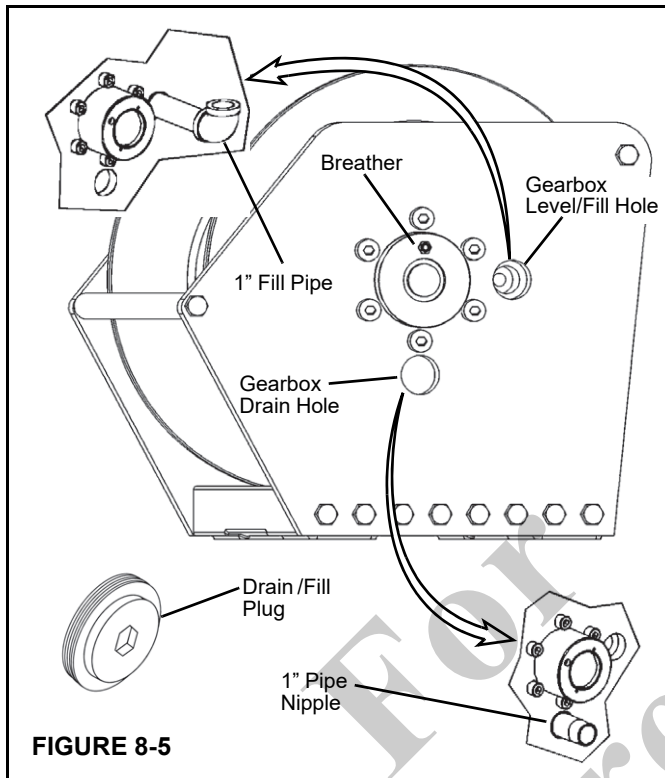

FIGURE 8-5
- Rotate the drum until the oil fill/drain plug is level with the oil level/fill inspection hole (Figure 8-5).
1. Rotate the drum until the oil/fill plug is level with the drain hole (Figure 8-5).